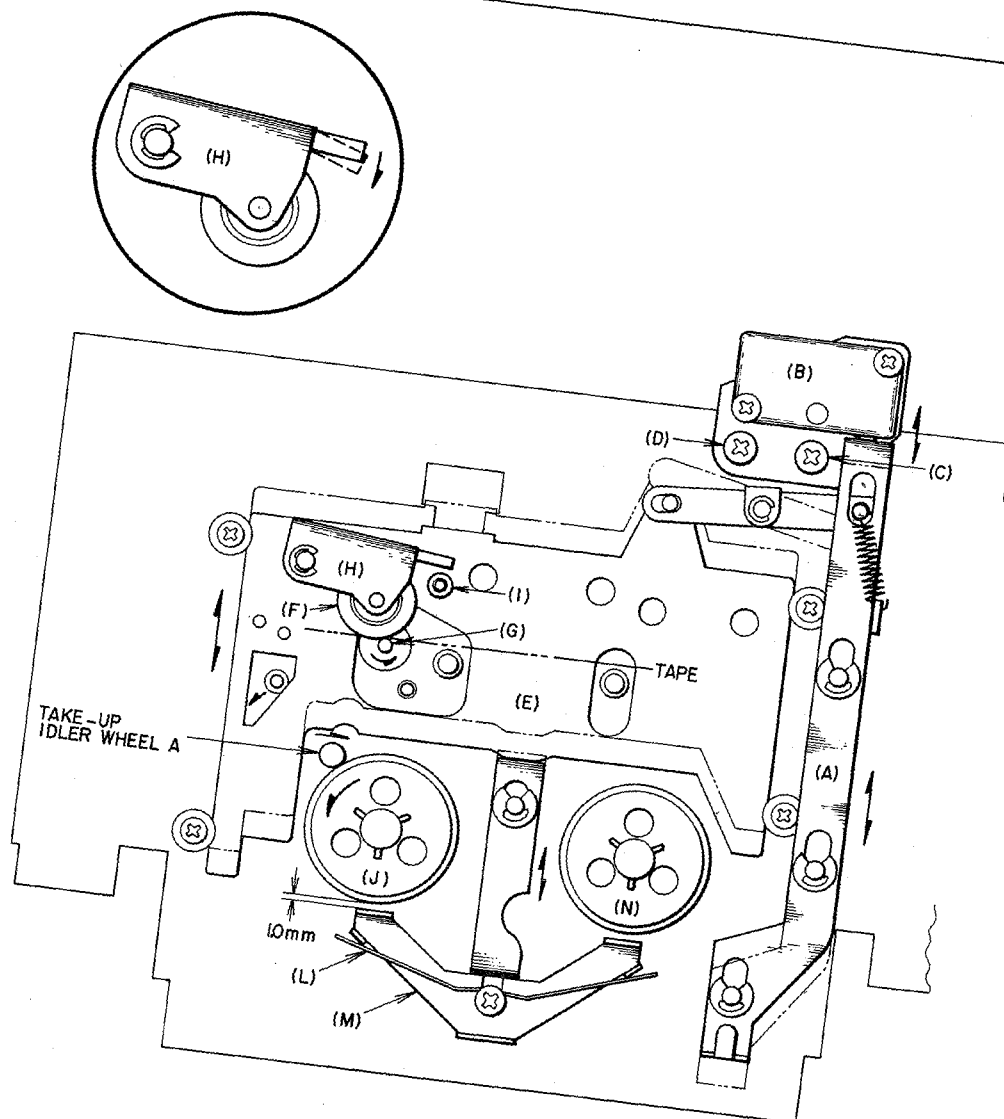

Fig. 12
**(6) ADJUSTMENT OF RECORDING PROTECTION DEVICE (See Fig. 12)**
**(7) ADJUSTMENT OF PINCH WHEEL PRESSURE TIMING (See Fig. 12)**
**(8) PINCH WHEEL PRESSURE STRENGTH ADJUSTMENT (See Figs. 12 and 13)**
**(9) BRAKE ADJUSTMENT (See Figs. 12 and 14)**